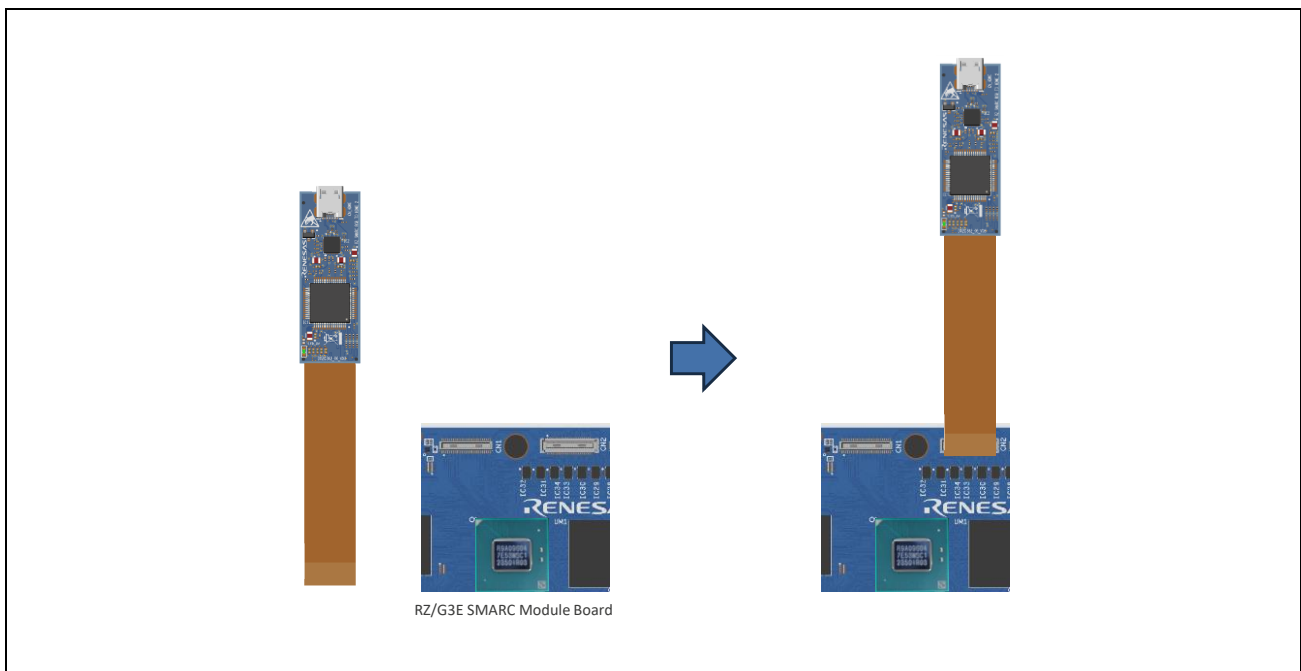

Figure 3.10 SMARC RGB-HDMI Adaptor Connection
- (1) the DSI connector (CN3) on the top side of the SMARC Module.
- (2) the microHDMI connector on the RZ SMARC Carrier II through the SMARC Edge connector. Refer to **section 3.19.1, Display Interfaces** for pin assignment. (This is a default setting.)
Regarding (1), a 50-pin, 0.4-mm pitch, 1.5 to 4.00 mm height FPC-to-Board connector from Hirose (part number DF40C-50DP-0.4V(51)) is provided for connection to the RZ/G3E MIPI DSI IO. Regarding (2), the microHDMI connector via the MIPI DSI to HDMI conversion IC from Analog Devices (part number ADV7535BCBZ-RL) on the G3E SMARC Module is provided for connection to the RZ/G3E MIPI DSI IO as shown in **Figure 3.10**.